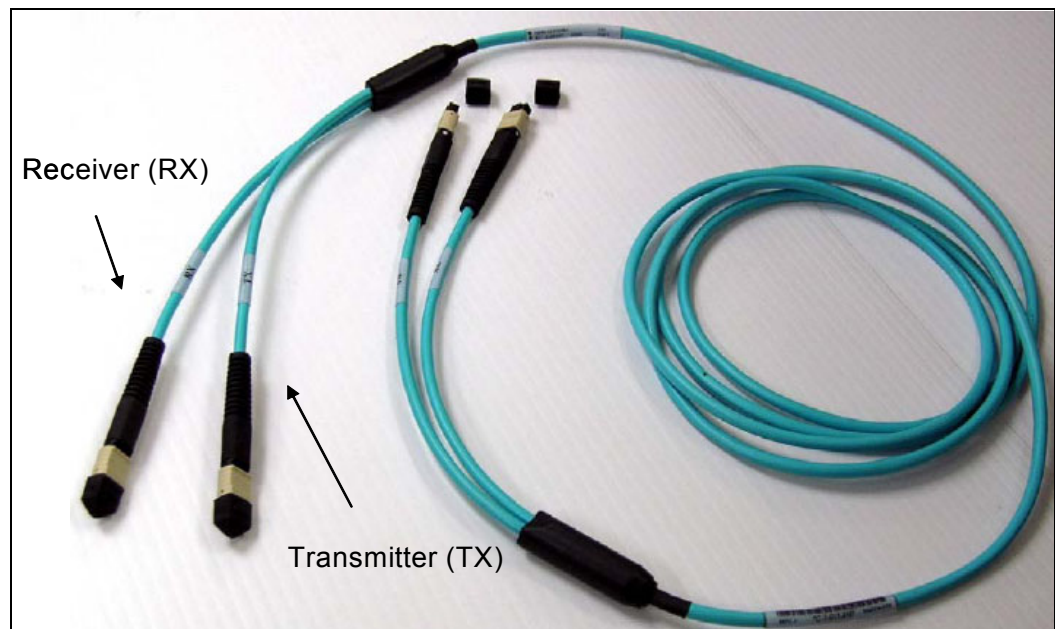

Figure 2-11 Optical InfiniBand cable, including TX and RX labels
- The 50-micron OM3 (2000 MHz-km) multimode fiber cable with MPO connectors (see Figure 2-11) for PSIFB 12X links.